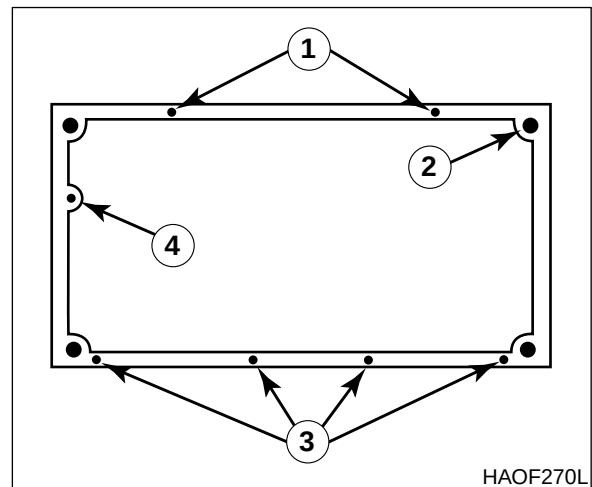

Figure 9
3. Install four mounting nuts on four corners of cabin floor (2, Figure 9).
4. Install four hex bolts (3, Figure 9) in door side of cabin floor.
5. Install two hex bolts (1, Figure 9) in right side of cabin floor and one bolt (4) under front window of cab floor.